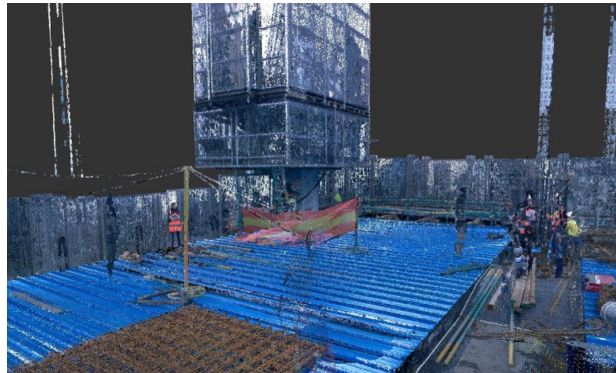

Figure 4. A scan of a 44 level high-rise under construction by Laing O'Rourke.
- *Floor Flatness and Floor Levelness*: By utilising BuiltView on the 44 level high-rise in North Sydney, Laing O'Rourke mitigated much of the risk associated with the works that followed structural works, for example carpet laying. A scan of the building is shown in Figure 4